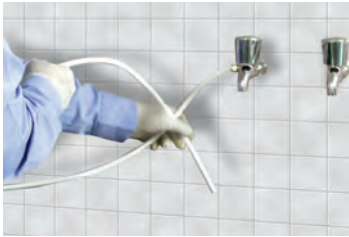

Fig. 4.93
- Fix the end not fixed to SS ball valve of the white pipe into the water inlet of the water purifier as shown in Fig. 4.93.